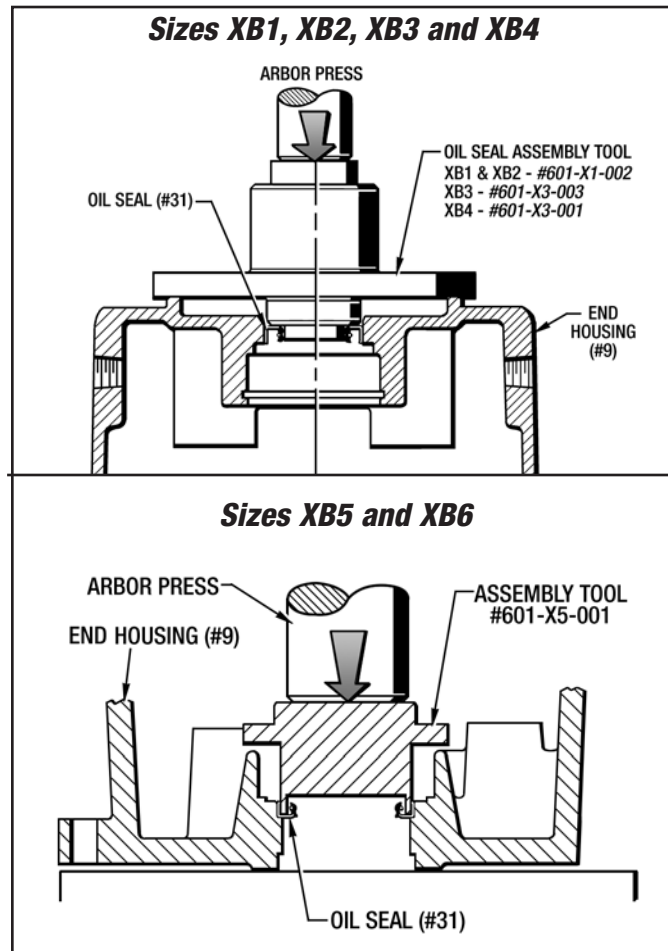

Figure 9.1 - Installing Oil Seal (#31) in a Coupler Brake
(See *Figures 9.1, 9.2 and 10.1*)
2. Install the Oil Seal (#31) into the End Housing (#9) with an Arbor Press and the appropriate Assembly Tool as shown in *Figure 9.1*. **Make sure the Oil Seal (#31) is completely seated in the bore.**